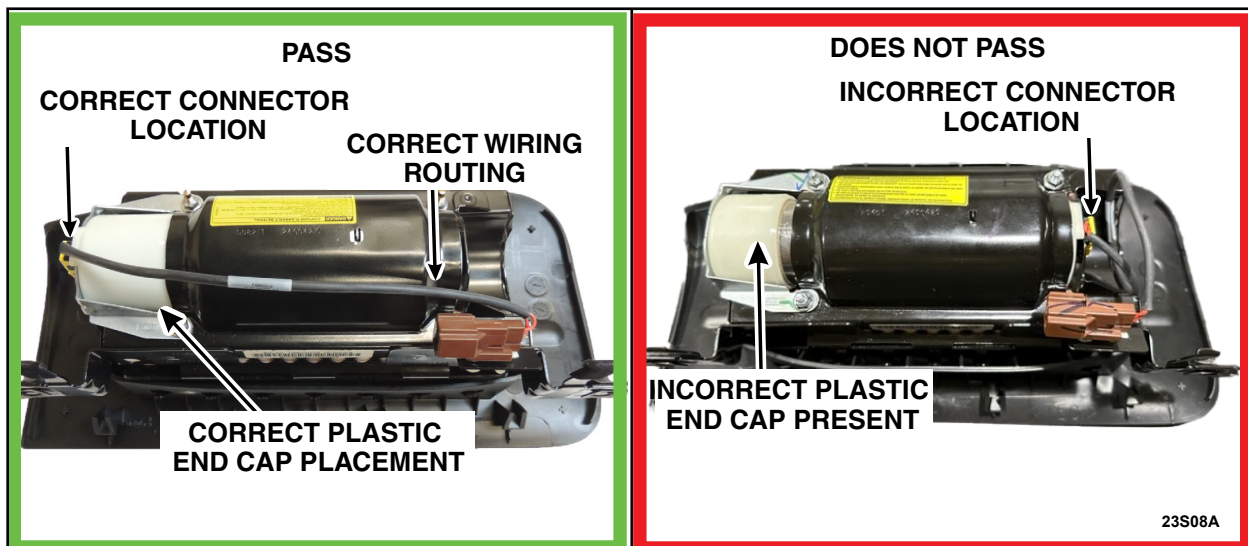

FIGURE 1
3. Inspect the passenger airbag inflator to make sure that the plastic end caps are installed on correct ends of the inflator and the inflator is installed in the correct orientation as shown in Figure 1. Are the plastic end caps installed on the correct ends of the inflator and is the inflator installed correctly in the module?
- Capture a photo of the passenger airbag inflator as shown in Figure 1 and submit the photo via Concern Reports using the "Report a Vehicle Concern" process. Concern Reports may be submitted via Web Based PTS or through Mobile PTS using any mobile device (e.g., tablets, smart phones). Please see Page 10 for additional details.
- Capture a photo of the passenger airbag inflator installed incorrectly. See Figures 1 and 2 for examples of incorrect inflator installation. This photo will be submitted along with a photo of the inflator installed correctly at a later step. Please see Page 10 for additional details. Proceed to step 4.